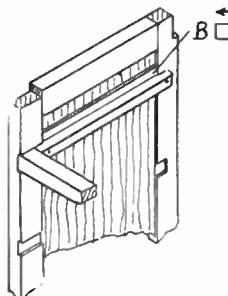

Fig. 2—Fixing the drawer runners
Cut the drawer runners from the $\frac{3}{4}$ in. wood, making them $\frac{1}{2}$ in. thick, and long enough to extend across the frames and into the grooves at the rear. Nail or screw them in. A space will be left, about $\frac{1}{4}$ in. or $\frac{3}{8}$ in. deep between the panels, and uprights of the frames, and to ensure free running of the drawers, slips of wood, planed to the necessary thickness, are glued to the panels to bring them level with the frames. This is shown in the detail of construction at (B) in Fig. 2. Indicated here, also, are two of the notches cut for the longitudinal bars in the middle frame, and mentioned before.